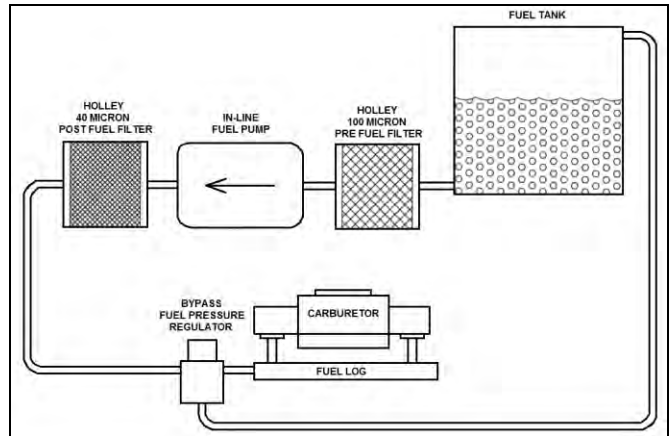

Figure 2
3. The 12-803BP bypass regulator has one bypass or return port. This port (labeled "RET") must be connected to the storage tank with a fuel line the same size as the supply line (3/8" I.D. is recommended). See Figures 2 & 3.
5. Connect the other line per Figure 2 or 3.
**WARNING!** TURNING THE ADJUSTMENT SCREW ALL THE WAY IN WILL RESULT IN EXCESSIVE FUEL PRESSURE AND CAUSE THE CARBURETOR TO FLOOD. A FLOODED CARBURETOR CAN CAUSE A FIRE AND/OR EXPLOSION RESULTING IN PROPERTY DAMAGE, SERIOUS INJURY, AND/OR DEATH. ALWAYS USE A FUEL PRESSURE GAUGE BETWEEN THE REGULATOR AND THE CARBURETOR(S) WHEN ADJUSTING THE FUEL PRESSURE REGULATOR.